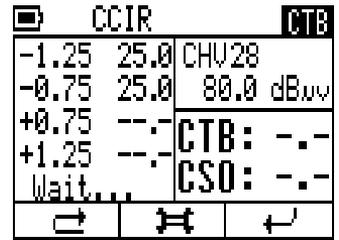

Figure 4
3. Press F3 or CH button to enter the measurement CTB state (Figure 4), read the offset frequency of each channel level value successively.